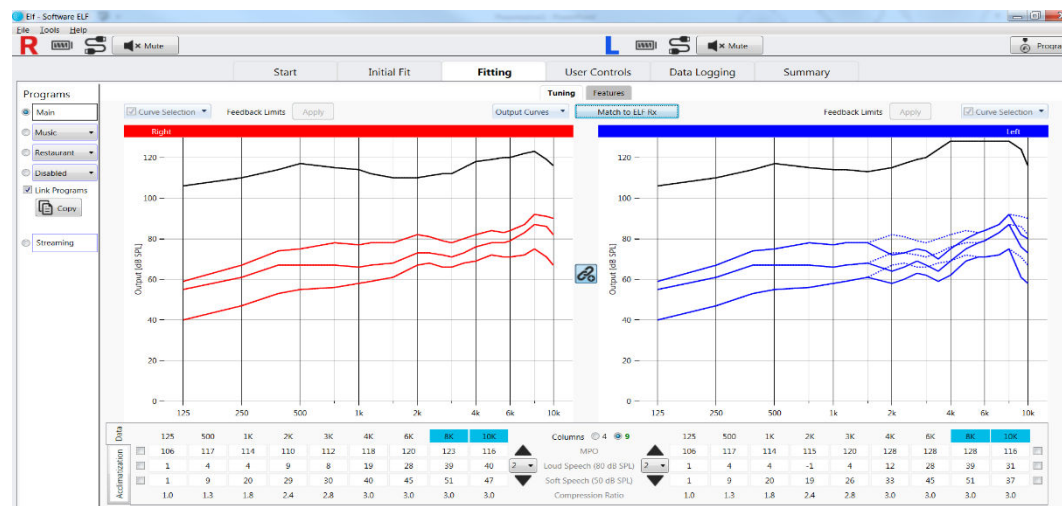

Figure 24: Fine Tuning- Output Curves displaying feedback limits applied for the left ear
- If the maximum stable gain interacts with the gain prescription, feedback limits will automatically be applied to the Current Fit Response (Figure 24).